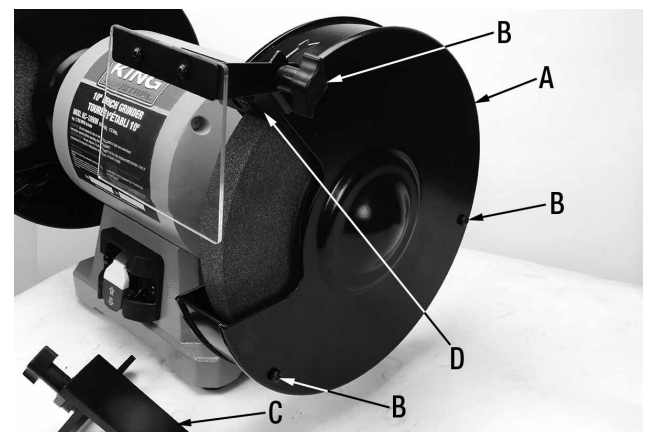

FIGURE 9
1. Remove the corresponding grinding wheel cover (A) Fig.9 by removing the 3 long screws (B). Removing the tool rest (C) will be necessary, reposition the spark shield (D) away from the grinding wheel.
5. Reinstall the grinding wheel cover (A) Fig.9, and reposition the tool rest and spark shield assemblies.